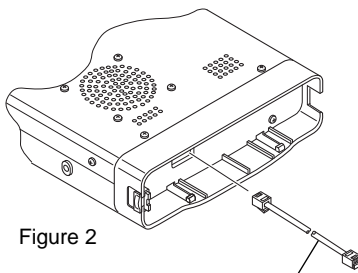

Figure 2
4. Referring to Figure 2, insert the plug of the Controller Extension Cable into the corresponding jack on the **FT-8900R**.